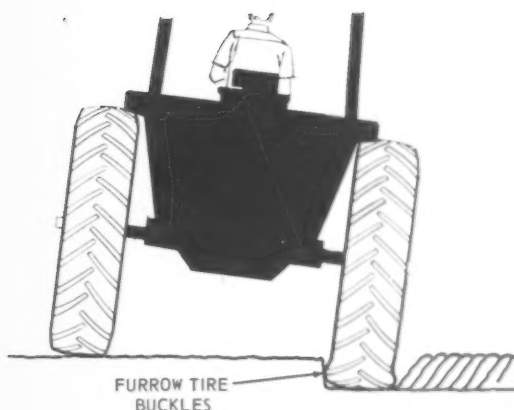

Fig. 48—Tire Tends To Buckle In Furrow
9.5	12 (80)	18 (125)
b. If the tractor is used for plowing with one set of wheels in the furrow, inflate the furrow tires a few extra pounds (usually about 4 psi [30 kPa]) to avoid excessive buckling of tires (see Fig. 48). Again, do not exceed maximum pressure.